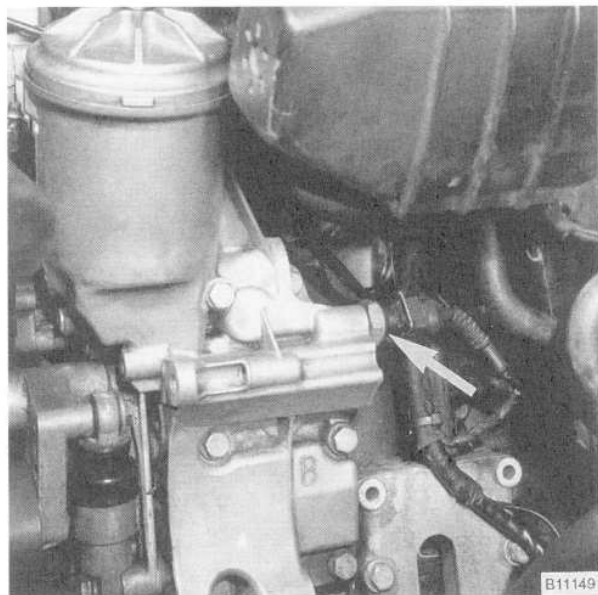

Fig. 1. Oil pressure switch location (arrow) on M50 engine. Switch locations vary depending on engine.
1. Disconnect the harness connector from the oil pressure switch. Thoroughly clean around the switch and then remove it. See Fig. 1. Install in its place an oil pressure gauge.